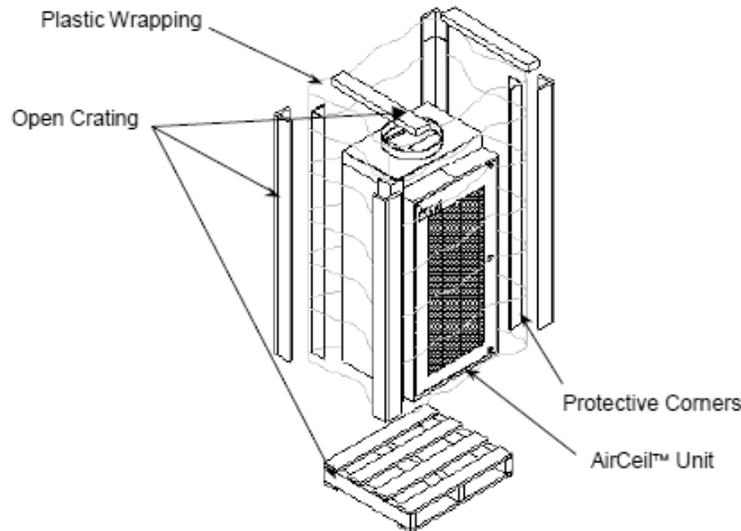

Figure 1: AirCeil™ Packing Components
4. Remove the plastic wrapping from the AirCeil unit and inspect for any undisclosed damage that may have occurred during transportation (Figure 1).